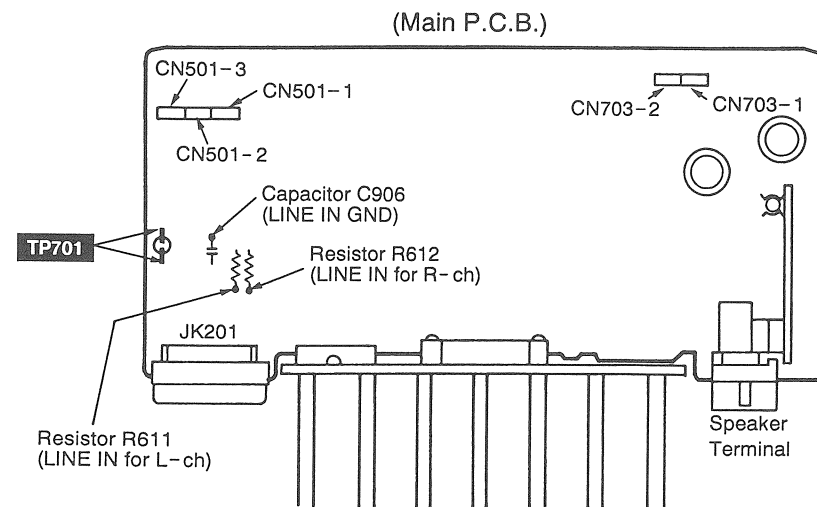

Fig. 1
2. Make test point TP701 (TP701) short as shown in Fig. 1.